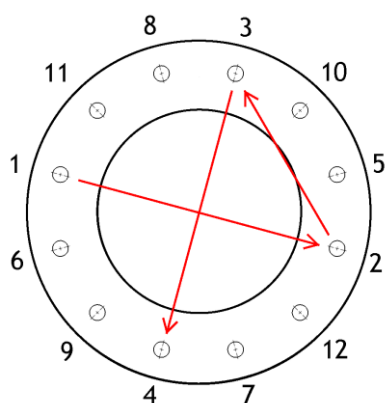

Figure 9. Flange bolt tightening example.
4. Tighten the flange connection bolts evenly in a crosswise sequence shown in Figure 9. Recommended tightening torque is shown in Table 7.